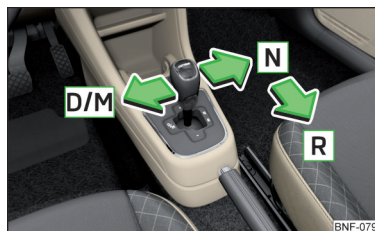

Fig. 92
The selector lever can be moved through shifting to one of the following positions » Fig. 92.
- Press the selector lever towards the left in the spring-tensioned position in the direction of the arrow » Fig. 92 on page 74 and insert into position **D**.